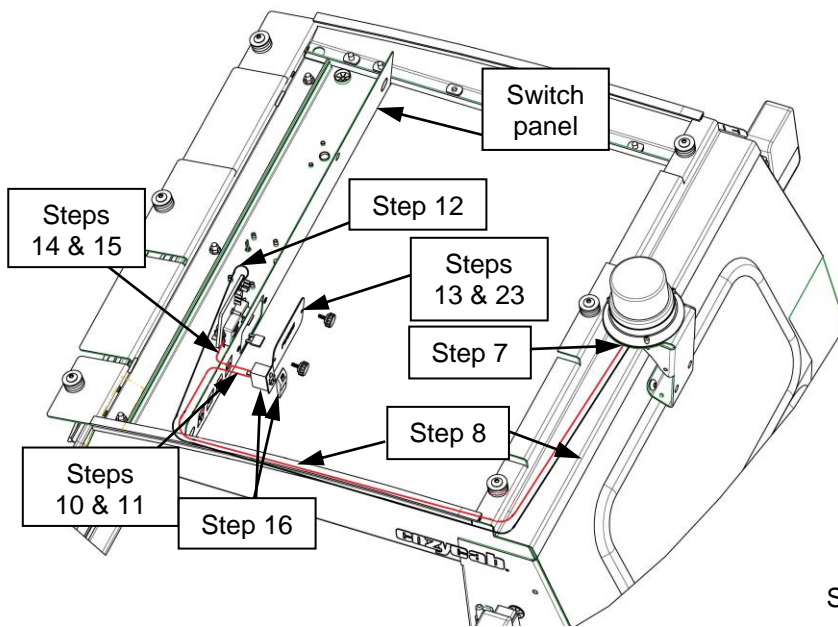

Figure 4
11. Route red wire of beacon wire harness, through the rocker switch hole and connect to rocker switch terminal 3 (Figures 4 & 6).
12. Connect black wire of beacon wire harness to fuse block (-12VDC) grounding terminal (Figure 4 & 5).
15. Route straight connector end of wire harness through switch knockout hole and connect to rocker switch terminal 2 (Figures 4 & 6).
16. Attach switch actuator (Item 11) to rocker switch (Item 10) then install switch into knockout hole in switch panel (Figure 4).
17. Install 2 amp fuse into fuse block location selected in Step 14 (Figures 4 & 5).